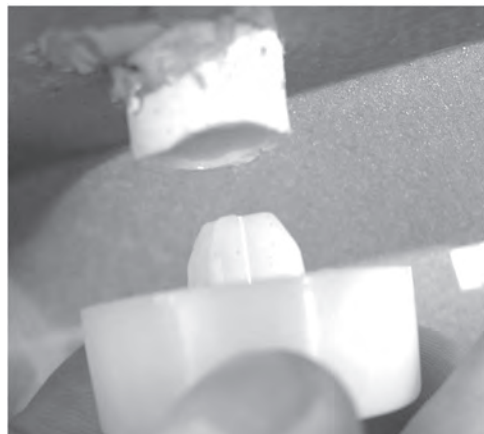

Figure 3
2. The drain trap can be removed by pulling it out of the drain tube, see figure 3.